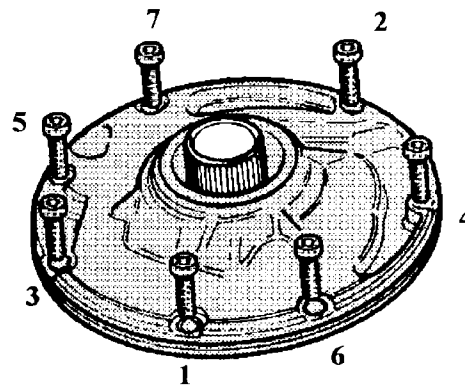

Figure 162
32. Hand thread the 7 pump attaching bolts into the case, and **"Hand Tighten Only"** to 70 in.lb. then turn an extra one quarter turn tighter. Use the sequence shown in Figure 162.